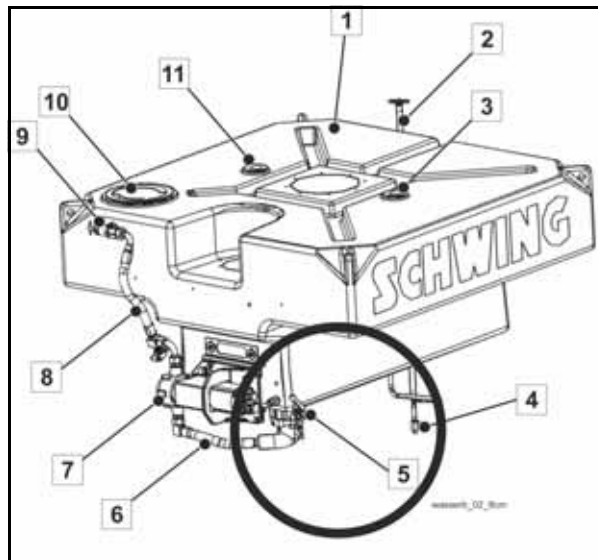
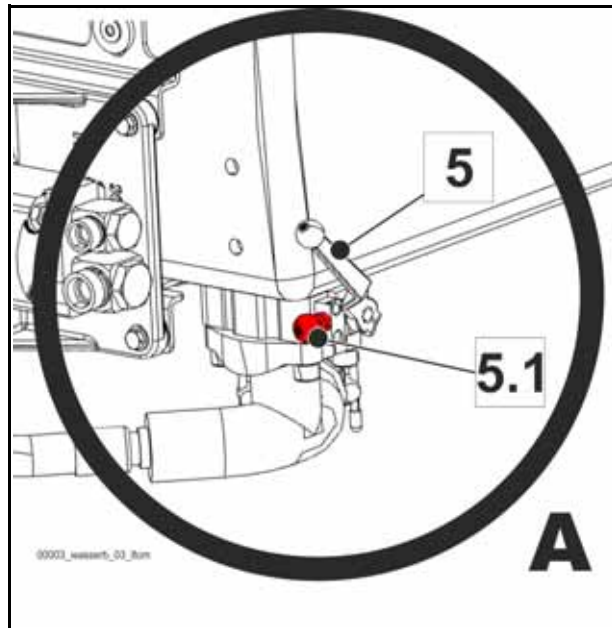

Fig. 188 Fig.: 3 Opening the suction pipe in water case
Fig. 189
- Unlock the ball valve (5) (**Fig. 188**) by releasing the fuse (5.1) (**Fig. 189**).
- Open the ball valve (5) (**Fig. 188**) in the suction pipe of the water pump.